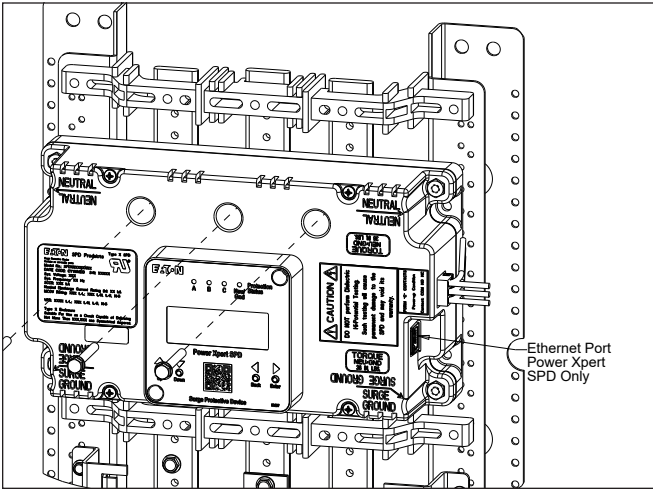

Figure 5. Bus bar extension bushing
5. Install the bus mount fasteners and tighten to 4.1 N·m (36 in-lbs). See Figure 5.